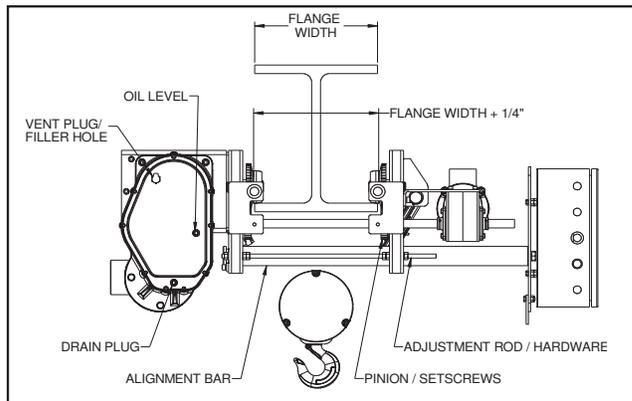

Figure 2-1. Trolley Wheel Spacing
If the trolley can be installed directly from the end of the supporting beam, adjust the spacing between the trolley wheel flanges to be 3/16" - 1/4" greater than the exact width of the beam flange (See Figure 2-1). Before adjusting the width of the trolley frame, make sure to loosen the pinion set screws on the keyed cross shaft nearest the traverse drive reducer. Do not lose the keys for the pinion during adjustment. Also, the electrical conduit/cable must not be constrained when attempting to adjust the trolley sides, in or out. The trolley width is adjusted by loosening the jam nuts on the traverse drive side of the threaded rods at each end of the hoist. If necessary, lubricate the frame alignment bars with penetrating oil before attempting to adjust trolley width. The trolley side may then be pushed or driven into position by turning the adjusting nuts on the threaded rods. Adjust nuts on each side of the hoist simultaneously, to avoid binding. After adjusting the trolley to the proper width, tighten all adjusting nuts and setscrews, and re-secure the electrical conduit/cable. Verify that the geared wheels mesh properly with the traverse drive pinions. Using proper equipment, carefully lift the hoist and install on the end of the beam. Lubricate the wheel gear and all pinions (WG, Section IV, Paragraph 4-5).
For trolleys which are to be mounted along the span of a beam not having open ends, the trolley must be adjusted in the same manner as described above to a width that allows clearance between the axle ends and the beam flange. Using proper lifting equipment, the trolley and hoist must then be lifted to the beam where it is to be installed. Once in position, adjust the spacing between the trolley wheel flanges to be 3/16" - 1/4" greater than the exact width of the beam flange (See Figure 2-1). After tightening all adjusting bolts, set screws, and all electrical conduit/cable clamps, carefully set the trolley on the beam. Lubricate the wheel gear and all pinions (WG, Section IV, Paragraph 4-5).
- a) Check Oil Level. (Figure 2-1) The gearcase has been filled with oil to the proper level. However, this should be rechecked before operating the hoist.
Check oil level by removing the oil level plug indicated in Figure 2-1. When properly filled, oil should be level with the bottom of the tapped hole. Fill to this level with oil as specified in Paragraph 4-2.e.